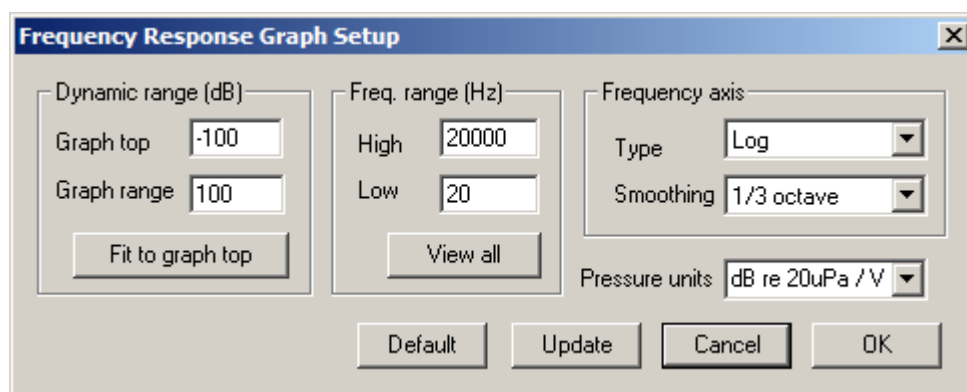

Figure 4.4 Frequency response graph setup
5. Activate the '**Frequency response graph setup**' dialog box by clicking the menu **Setup->Graph setup** or by clicking the mouse in the plot area. This dialog box is shown in Fig. 4.4. Use this dialog box to adjust (1) dynamic range shown, (2) frequency range shown and (3) frequency axis resolution.